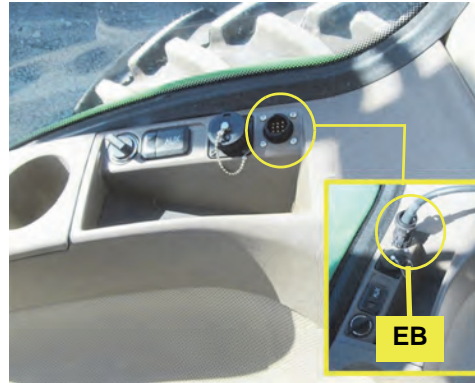

Figure 2b: CAN interface cable connected at machine's console
- b. Install CAN interface cable **EB** between **EA**'s connector labelled 'STEERING CONTROLLER' and the machine's CAN connection socket (the rear-most socket in the console next to the right window - Figure 2b and inset).